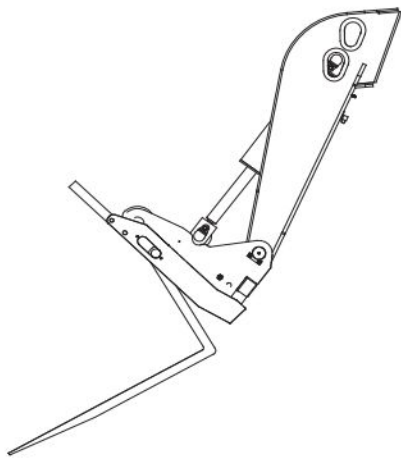

Figure 2-19 Forks Pivoting on the Bar
2. Tilt the attachment forward until the fork pivots on the bar and no longer resting on the attachment's bottom rail (Figure 2-19). This prevents binding on the bar, thus aiding its repositioning.